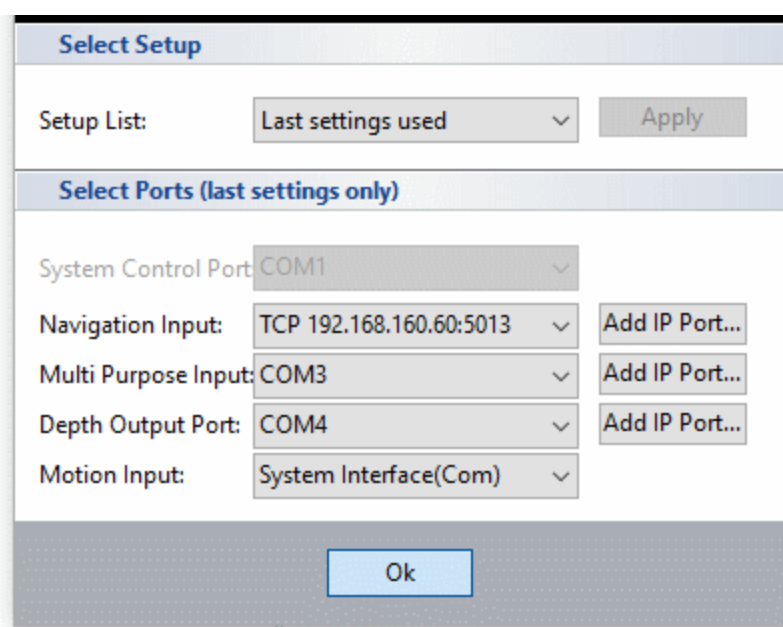

Figure 2: The SESWIN COM Port Setting
- Click the *SESWIN_V2245_24bit* icon on the desktop, the following window will show up (Figure 2).
or Alternating Trigger (for using the synchronisation and sending the trigger to another device) (Figure 2, Figure 18 and Figure 19). Triggering needs to be tested. Following settings have been tried so far. Check if usable!